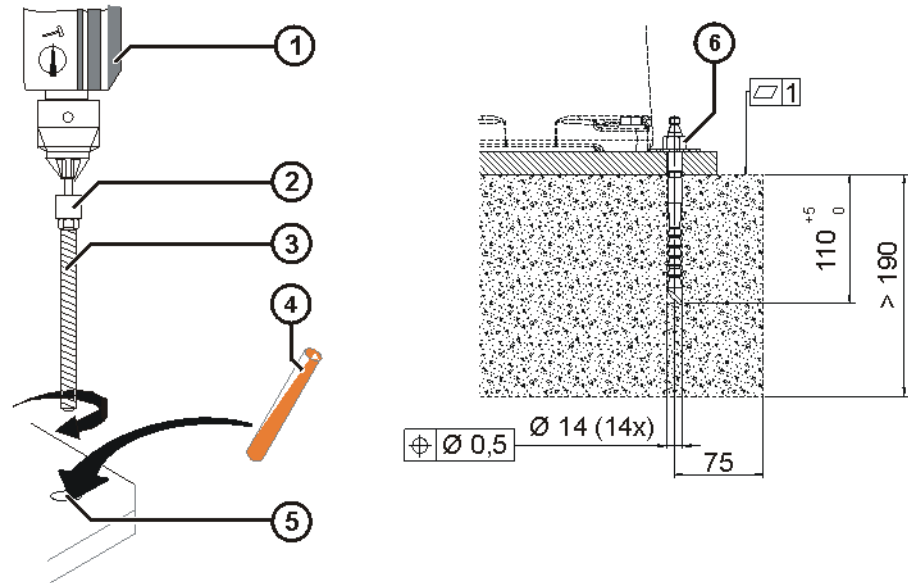

Fig. 8-1: Installation of resin-bonded anchors
5. Drill 4 anchor holes through the holes of the bedplates into the foundation (>>> Fig. 8-1).